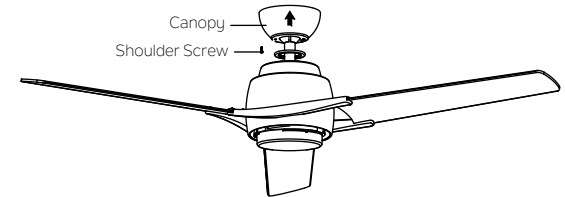

**Fig. 15**
**Step 1.** Remove one of the two shoulder screws in the mounting bracket. Loosen the second shoulder screw without fully removing it. (Fig. 15)